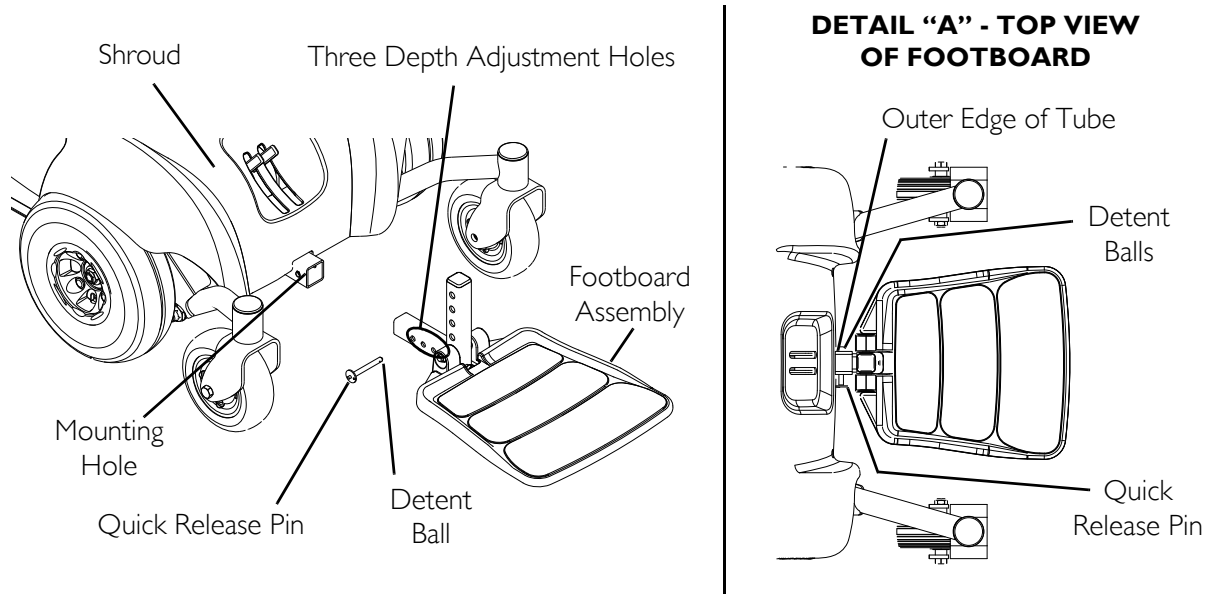

FIGURE 9.3 Adjusting the Footboard Assembly - Depth
NOTE: For this procedure, refer to FIGURE 9.3.
3. Install the quick release pin. Make sure the detent balls are engaged with the outer edge of the tube (Detail "A" of FIGURE 9.3).